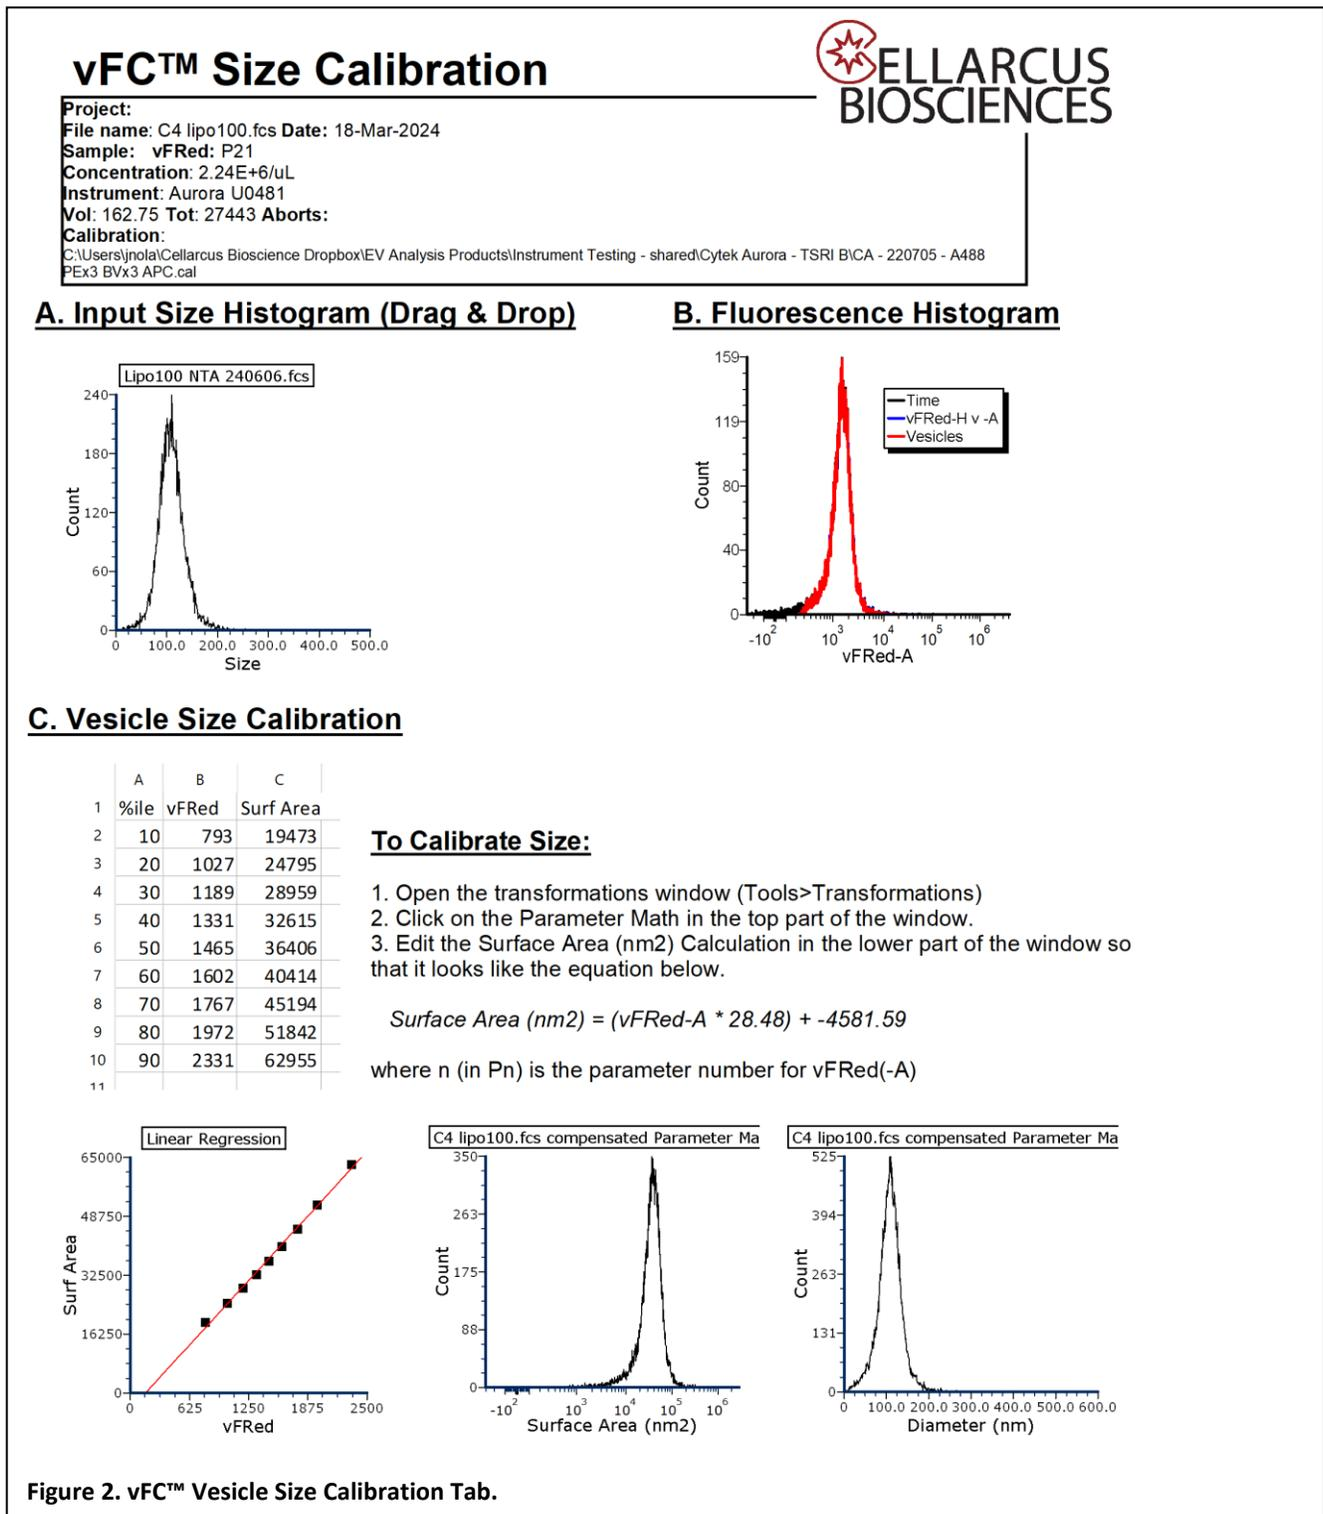

Figure 2. vFC™ Vesicle Size Calibration Tab.
10. The **Standard Open Data Dialog** will appear (Figure 2).
Figure 2. Files for controls have been added to Step 1 in the Automatic Compensation Setup and are typically matched automatically to their respective parameters. Note: For some instruments this may need to be done manually (See instruments specific protocol 0).